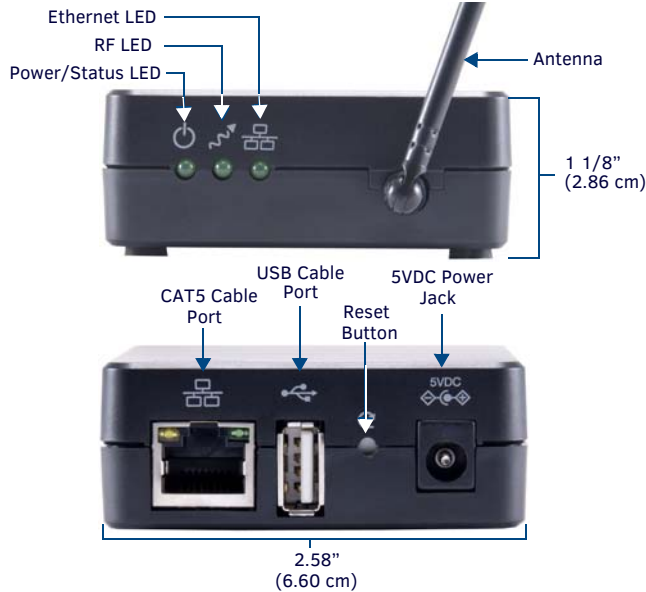

FIG. 1 NXB-CCG CLEARCONNECT WIRELESS GATEWAY
- Press and hold the **Reset** button (FIG. 1) on the device for 20 seconds.